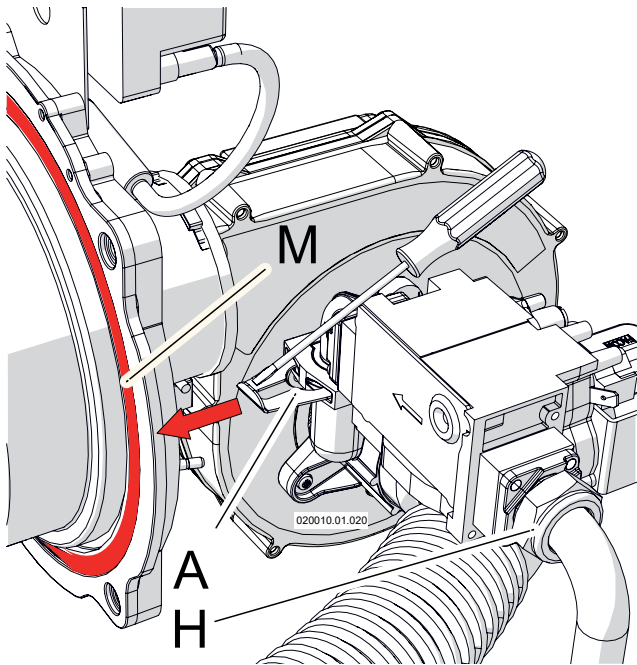
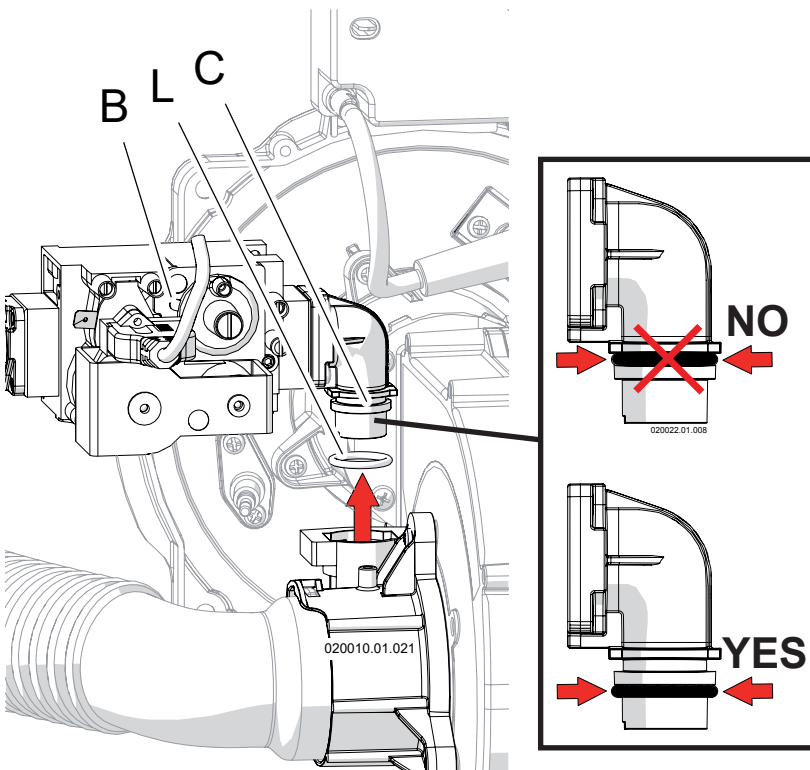

Figure 17-5 Nut and spring that fixes the gas valve
Figure 17-6 Remove the gas valve
7. unscrew nut "H" (Figure 17-5). Pay attention to the gasket between nut "H" (Figure 17-5) and the gas valve.
8. take away the spring "A" as per Figure 17-5. Help yourself with a screwdriver;
10. Remove the gas valve from its position (see Figure 17-6). Take care attention to the o-ring "L" of Figure 17-6;
17. replace gasket "M" as per Figure 17-5 (Part number for this gasket is in Section 19). Take care that the gasket and its site are clean.
⚠ WARNING!!! Pay attention to the gasket "M" (Figure 17-5) during reassemble. When finished, perform a leakage test with the burner firing. Always use an approved leak detection method. Failure to comply with this warning can cause fire, extensive property damage, severe personal injury or death!
18. reassemble the components by proceeding in reverse order. Pay attention in the reinstalling of gasket between nut "H" of Figure 17-5 and of the o-ring "L" of Figure 17-6. These must be in good condition. If not they must be replaced;